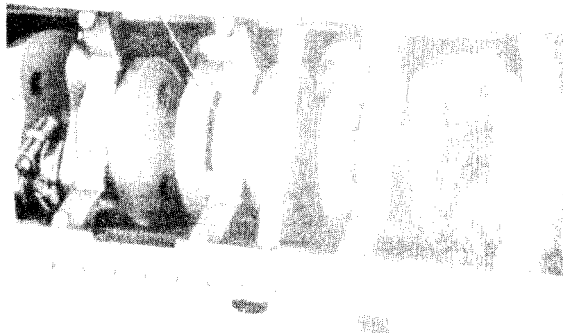

Figure 3-309. Installing main bearing caps using crankcase spreading tool.
i. Coat outer edges of bearing caps, bearing halves and machined surface of the crankcase webs with engine oil to facilitate installation of caps. Install number 4 (center) thrust bearing cap (fig. 3-309) and bearing half in position on crankcase studs. Use crankcase spreading tool 8708361 to spread crankcase so bearing caps will slide over studs and into position in the crankcase.
1. Remove crankcase spreading tool (fig. 3-309). Apply OE engine oil or GAA grease and install two plate washers and four slotted nuts (fig. 3-129) securing main thrust bearing cap (No. 4) to crankcase assembly. Apply OE engine oil or GAA grease